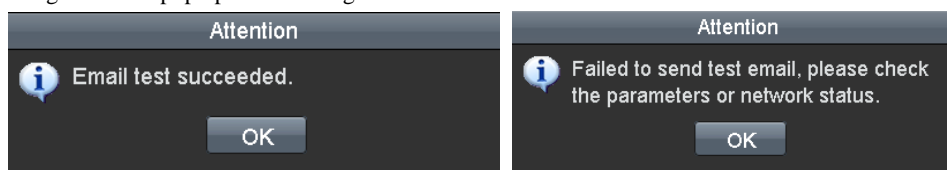

Figure 9.24 Email Testing Attention
- You can click **Test** to test whether your Email settings work. The corresponding Attention message box will pop up. Refer to Figure 9.24.